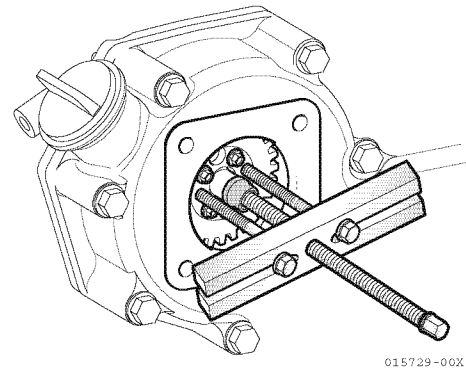

Figure 6-21
8. Hold crankshaft to prevent it from turning and loosen the nut for fuel injection pump drive gear / flange assembly with an extraction tool (Figure 6-21). *NOTICE: Do not disassemble pump flange, fuel pump drive gear and flange bolt.*